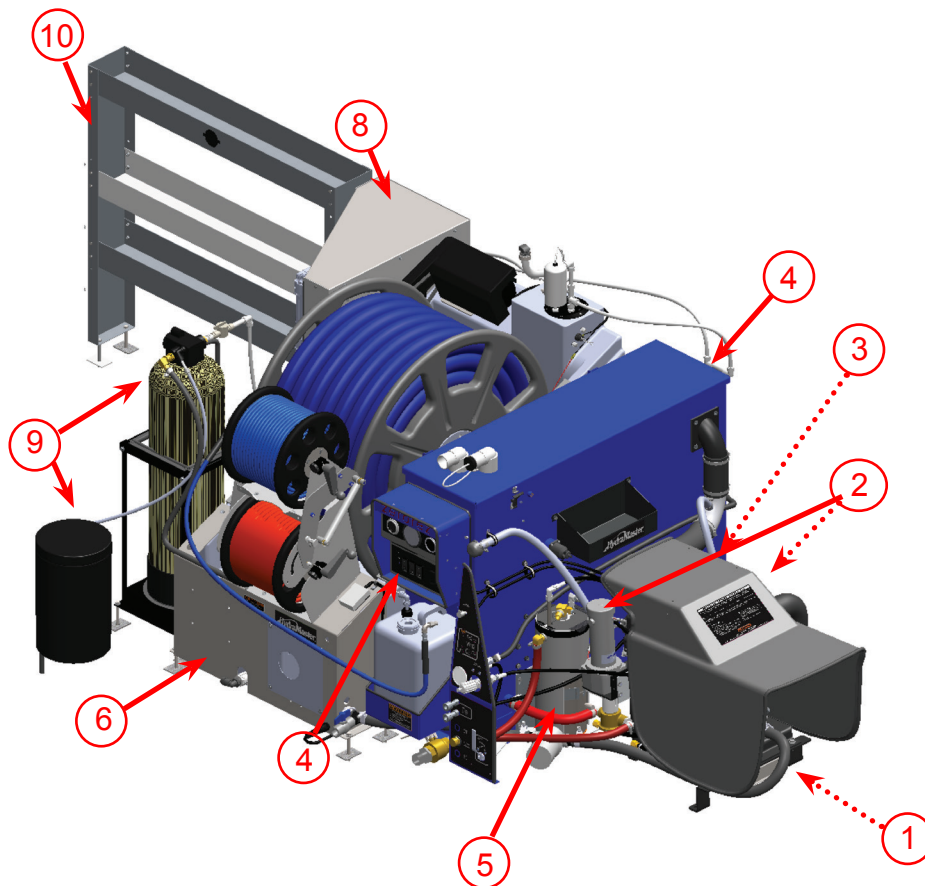

Figure 1. Zerorez CDS 4.8 EWS
Figure 1 shows these major components:
3. Salsa Heat Exchanger (hidden from view in Figure 1)
7. Pass Through Assembly (not shown in Figure 1)
The recommended location of the 3 Tier Stainless Steel is as shown in Figure 1.